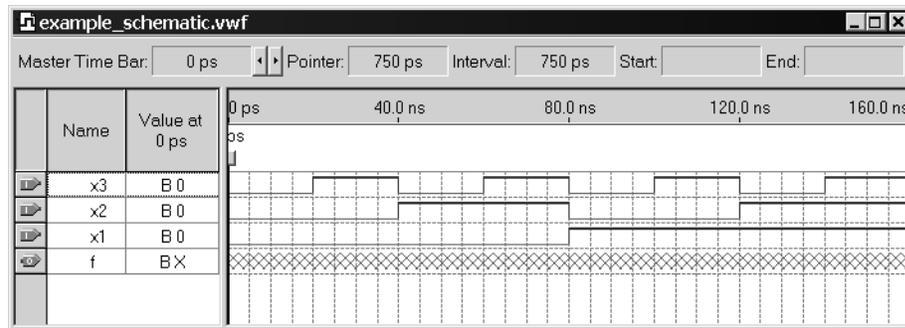

Figure B.23 The complete test vectors.
To simulate the behavior of a large circuit, it is necessary to apply a sufficient number of input valuations and observe the expected values of the outputs. The number of possible input valuations may be huge, so it is necessary to choose a relatively small (but representative) sample of these input valuations. (The topic of circuit testing is explored in Chapter 11.) Our circuit is very small, so it can be simulated fully by applying all eight possible valuations of inputs *x1*, *x2*, and *x3*. Let us apply a new valuation every 20 ns. To start, all inputs are zero. At the 20-ns point we want *x3* to go to 1. Click on *x3*; this highlights the signal and activates the vertical toolbar that allows us to shape the selected waveform. If this toolbar is not visible, it can be opened by first selecting **Tools > Customize Waveform Editor**, and then clicking to enable the toolbar called **Waveform Editor**. The toolbar provides options such as setting the signal to 0, 1, unknown (X), high impedance (Z), don't care (DC), and inverting its existing value (INV). Observe that the output *f* is displayed as having an unknown value at this time, which is indicated by a hashed pattern. A specific time interval is selected by pressing the mouse on a waveform at the start of the interval and dragging it to its end; the selected interval is highlighted. Select the interval from 20 to 40 ns for *x3* and set the signal to 1. Similarly, set *x3* to 1 from 60 to 80 ns, 100 to 120 ns, and 140 to 160 ns. Next, set *x2* to 1 from 40 to 80 ns, and from 120 to 160 ns. Finally, set *x1* to 1 from 80 to 160 ns. Complete these assignments to obtain the image in Figure B.23 and save the file.
Functional simulation of the Verilog code is done in exactly the same way as the simulation described earlier for the design created with schematic capture. Create a new Waveform Editor file and select **File > Save As** to save the file with the name *example_verilog.vwf*. Following the procedure given in section B.3.3, import the nodes in the project into the Waveform Editor. Draw the waveforms for inputs x_1 , x_2 , and x_3 shown in Figure B.23. It is also possible to open the previously drawn waveform file *example_schematic.vwf* and then “copy and paste” the waveforms for x_1 , x_2 , and x_3 . The procedure for copying waveforms is described in **Help**; it follows the standard Windows procedure for copying and pasting. We should also note that since the contents of the two files are identical, we can simply make a copy of the *example_schematic.vwf* file and save it under the name *example_verilog.vwf*.